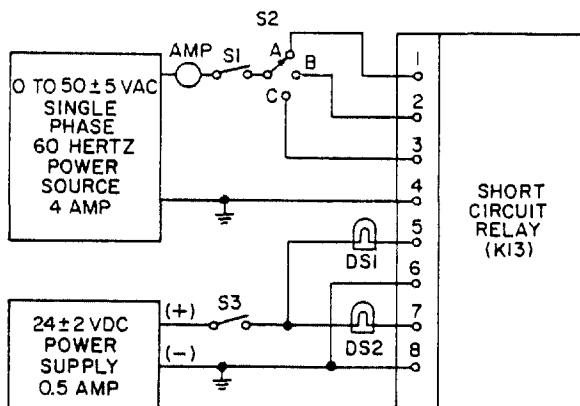

Figure 6-21. Short Circuit Relay K13,
a. Connect short circuit relay K13 to the test equipment shown in figure 6-21.